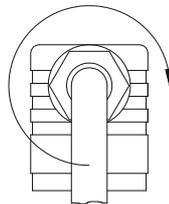

Fig. 11
- ↖ Press the core ⑧ into the cable socket ② until it locks into place.
- ↖ Put the central screw ⑥ in the cable socket ② and tighten the screwed cable gland ⑤ M16x1,5 (⇒ Fig. 11).